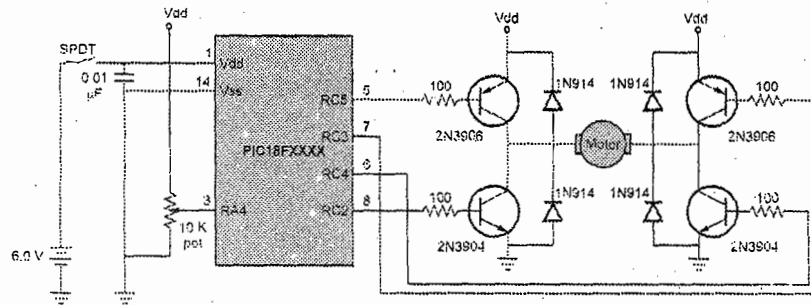

Fig. Q.23.2 PWM speed control
- Uses the timer 2 with increased frequency either internal or external. The transistorized speed control is shown in Fig. Q.23.2.